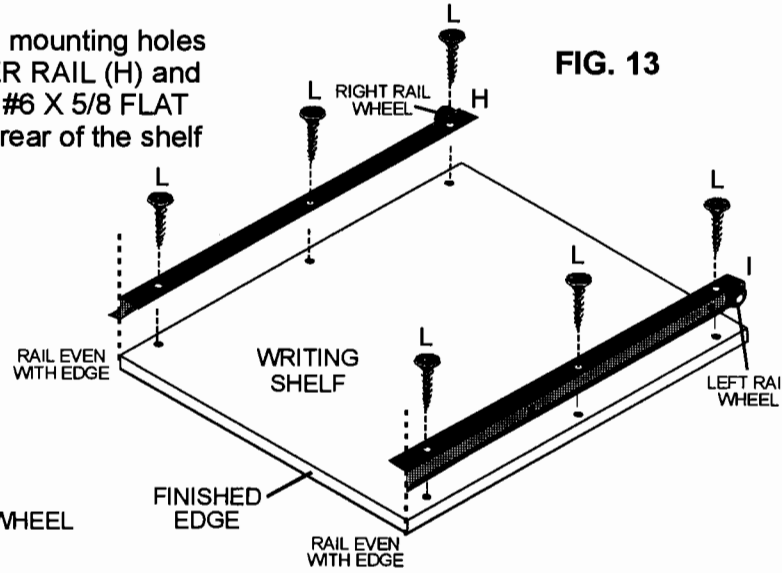

FIG. 13
Lay WRITING SHELF on a flat, non-scratch surface, rail mounting holes facing up. FIG. 13 Align and attach (1) RIGHT DRAWER RAIL (H) and (1) LEFT DRAWER RAIL (I) to each as shown using (3) #6 X 5/8 FLAT HEAD SCREWS (L) each. NOTE: Wheel on rail to the rear of the shelf opposite FINISHED EDGE.